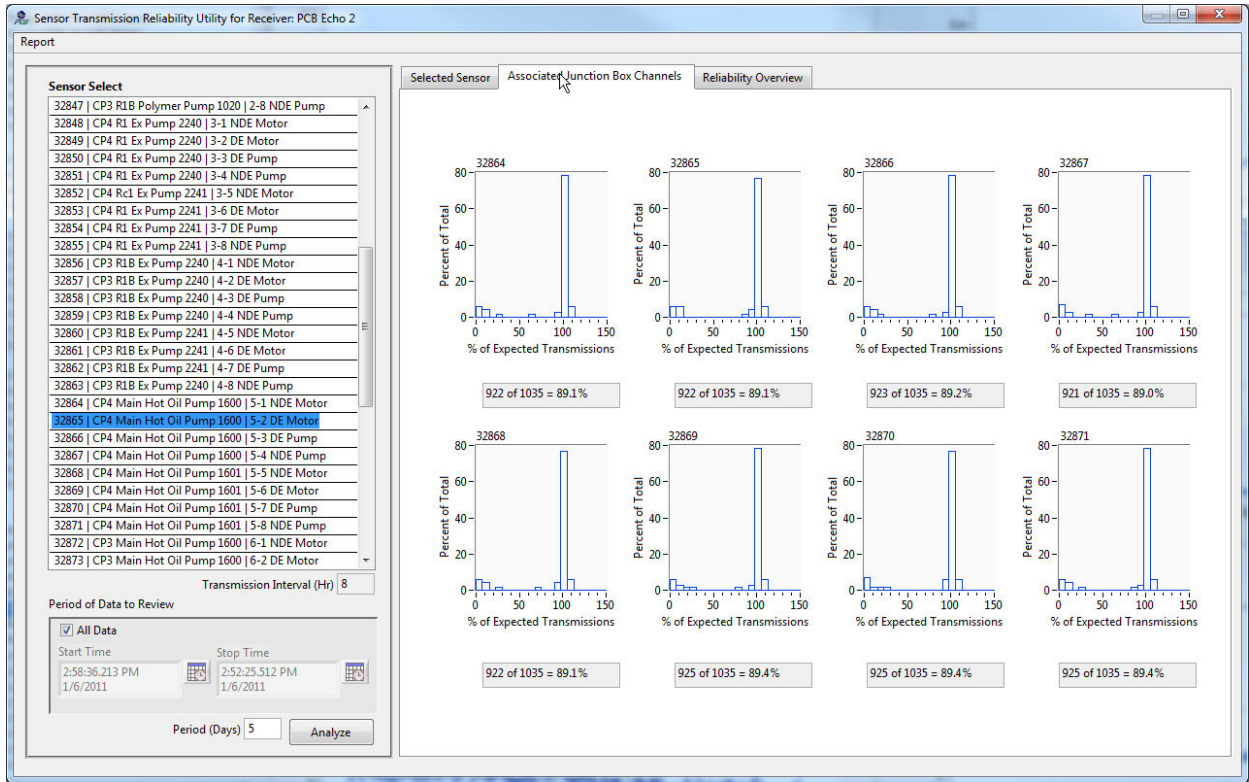

Figure 92 – Echo[®] Sensor Transmission Reliability Utility – Associated Junction Box Channels Tab
- **Associated Junction Box Channels Tab** (Figure 92) – This tab is only displayed if the sensor being analyzed is a junction box channel. This tab contains histograms and the overall transmission statistic for all channels on the selected sensor junction box. This is the same data that is shown for the selected sensor on the bottom graph of the **Selected Sensor** tab